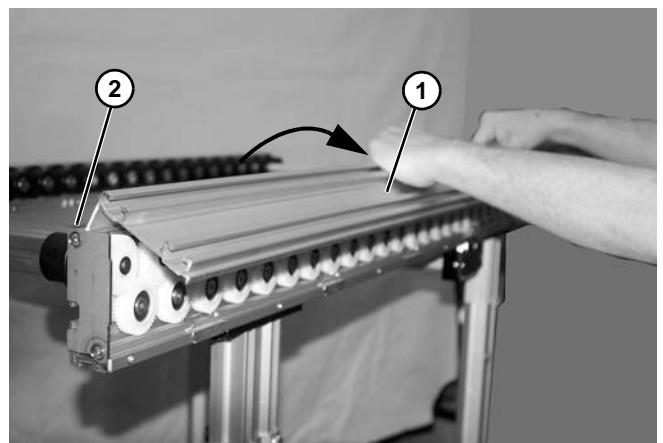

Figure 31
3. To install side cover (**Figure 31, item 1**), place flange of side cover into channel (**Figure 31, item 2**) of conveyor frame. Lower cover.